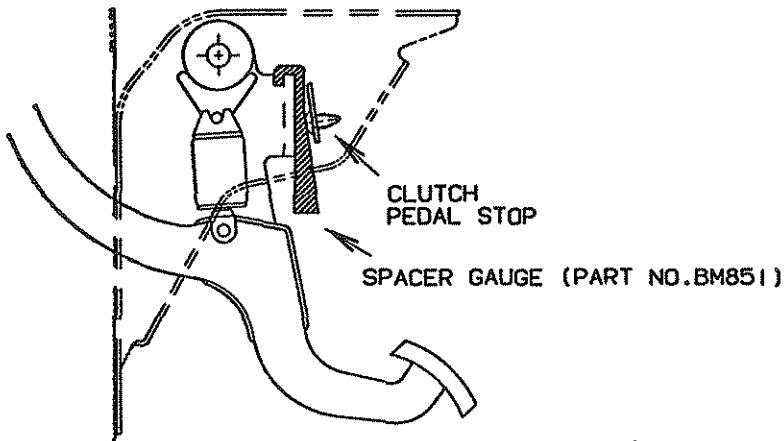

FIGURE 2 (ROCKWELL CLUTCHES ONLY).
- 2.2 FOR TRUCKS WITH ROCKWELL CLUTCHES ONLY--IN THE CAB POSITION SPACER (PART NO. BM851) BETWEEN THE CLUTCH PEDAL STOP AND THE CLUTCH PEDAL (SEE FIGURE 2).